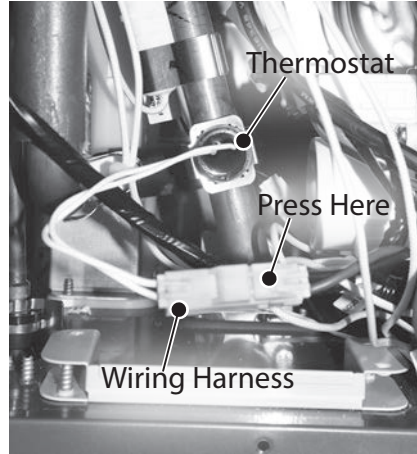

Figure 18 - Freeze protection thermostat location
- 4 Locate the freeze protection thermostat wiring harness as shown in Figure 18.
- 6 Disconnect the freeze protection thermostat wiring harness. See Figure 18.
NOTICE: Press in the location shown in Figure 18 to disconnect the wiring harness.
- 9 To install freeze protection thermostat to outlet water tube, gently push metal clamp onto tubing. The metal clamp will snap into place. Confirm thermostat sits flush against piping. See Figure 18.
- 10 Connect freeze protection thermostat to the wiring harness disconnected in **Step 6** See Figure 18.